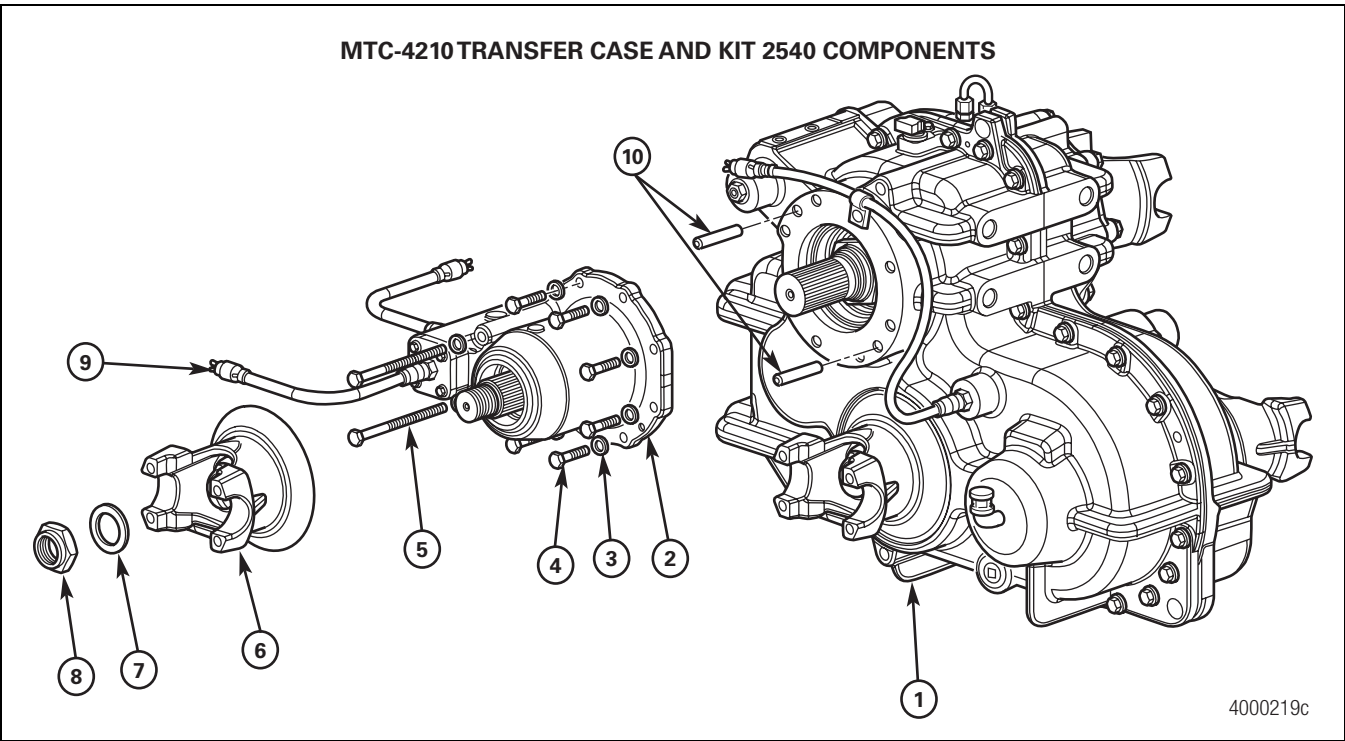

Figure 7.2
- 4. Remove the mounting bolts and washers that secure the rear-mounted pump housing. Figure 7.2.
1. Use a press and an applied press force of 500-1500 lbs (227-680 kg) to install a Meritor yoke, spline code RAI, onto the PTO shaft. Figure 7.2.
2. Apply a thin coating of Loctite® 518 gasket sealant to the entire PTO flange mounting surface. Figure 7.2.